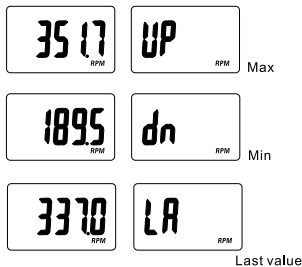

Fig. 2
c. After display data is stable and the desired amount of readings have been taken, release the measurement button. The maximum (UP), minimum (dn) and last value (LA) have been recorded over the test period.
d. Press "MEM" button (3) to cycle the display through the maximum (UP), minimum (dn), and last (LA) values. The MEM button must be pressed and released each time to cycle through the values (Fig. 2).